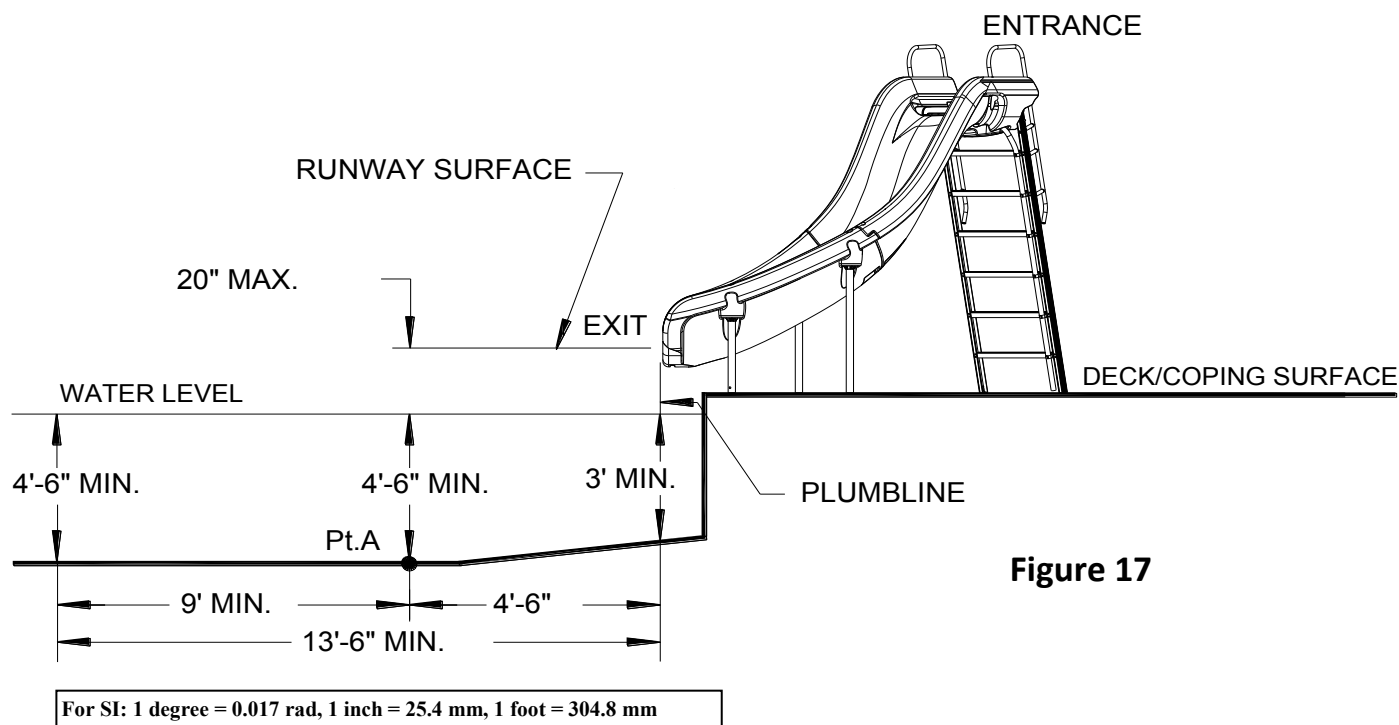

Figure 17
1) The critical dimensions for placement of the slide are as shown in Figures 17 and 18.
- A. The slide exit runway surface shall not exceed twenty inches (20") (508 mm) above the water surface and not less than eight inches (8") (203 mm) above the deck/coping surface (see Figure 17).
- C. The minimum depth of water below the exit lip of the slide shall be three feet (3') (914 mm) and increases to four feet six inches (4'-6") (1371 mm) at Pt. A which is a distance of four feet six inches (4'-6") (1371 mm) from the exit lip of the slide. (See Figure 17).
- D. A minimum depth of four feet six inches (4'-6") (1371 mm) shall be maintained at a distance of nine feet (9') (2743 mm) along the extended centerline of the slide from Pt.A. (See Figure 17).